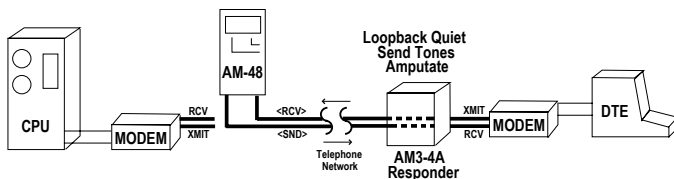

Figure 6-5. 4-Wire Testing with Responder
1. Connect an AM-48 to the near end of a 4-wire facility and an Ameritec Model AM3-4A or AM3-4B Responder at the far end. A typical configuration is illustrated in Figure 6-5.